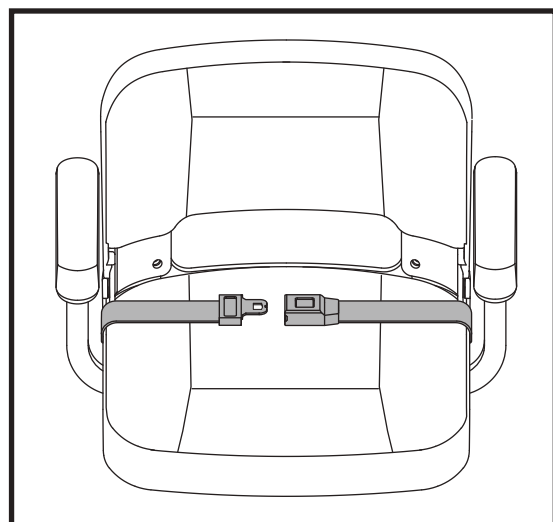

Figure 34. Positioning Belt - Metal Tab Style
Your scooter seat may be equipped with an auto-type positioning belt that can be adjusted for operator comfort. See figure 34. The positioning belt is designed to help support the operator so that he or she does not slide down or forward in the seat. The positioning belt is not designed for use as a restraining device.
1. Insert the metal tab on the right side of the belt into the plastic housing on the opposite strap until you hear a “click.” See figure 34.